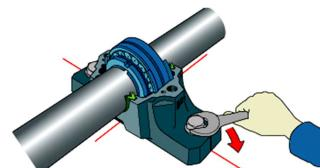

Figure 10 Line-up
- LINE UP THE HOUSING USING THE ALIGNMENTENGRAVING AND SLIGHTLY TIGHTEN THE BOLTS, FIGURE 10.